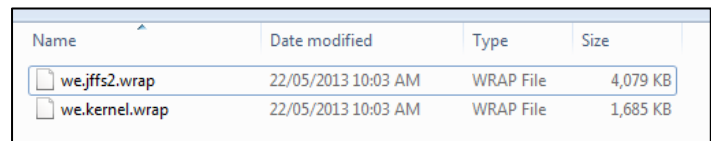

Figure 84 - Firmware Files
1. Prior to performing the upgrade you will need to copy the supplied firmware files to the USB Stick root directory. They should look something like the screenshot shown in Figure 84.